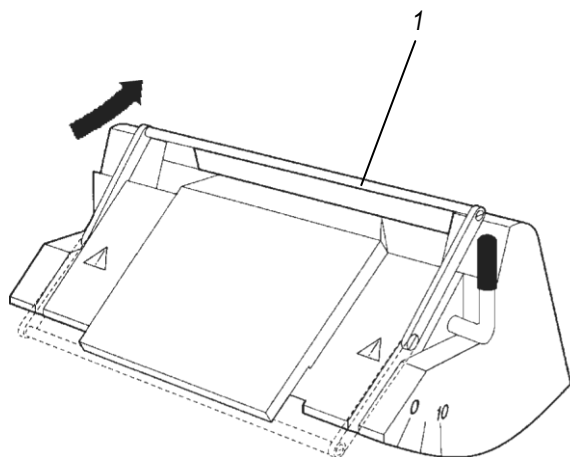

Fig. 1-2
Every blade holder is equipped with a permanent blade guard (1) (Fig. 1-2 and 1-3), which covers the entire length of the blade edge in any position.
The blade guard system of the blade holder (Fig. 1-2) consists of a hinged bar (1). To cover the blade edge, tilt the bar (1) upward. The guard can be easily repositioned from the base of the blade holder to the blade edge as shown in Fig. 1-2.